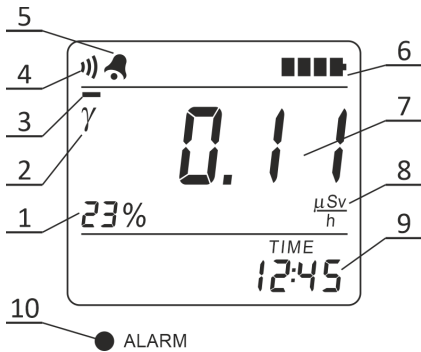

Figure 2.1 – LCD of the radiometer
Irrespective of the chosen operating mode, the radiometer carries out a non-stop control of batteries status. The results of control are displayed on the LCD with a battery status symbol  (6) (Figure 2.1), which consists of four segments.
2.3.3.6.5 The following information is displayed on the LCD of the radiometer (Figure 2.1):
- estimated limit of the expected relative statistical deviations (1) of the measurement result (7) with a confidence probability of 0.95, hereinafter - the estimated limit of statistical deviations;
- "γ" symbol (2) – an indication of the measured radiation type;
- instantaneous value indicator of the radiation intensity (3);
- sound symbol (4) (if audio signaling of registered gamma quanta is switched on);
- alarm clock symbol (5) (if the alarm clock is on);
- battery status symbol (6);
- measurement result (7);
- dimension of measurement result (8) μSv , mSv or cps ;
- current time (9).
2.3.3.6.7 If the DER measurement results exceed the alarm threshold level, the radiometer sends a two-tone sound signal and starts blinking with the red ALARM LED (10). Measurement results start blinking on the LCD of the radiometer. Periodic and gradual (from left to right) highlighting of the sound symbol segments (4) serves as an indication of the threshold level exceeding as well (Figure 2.1).